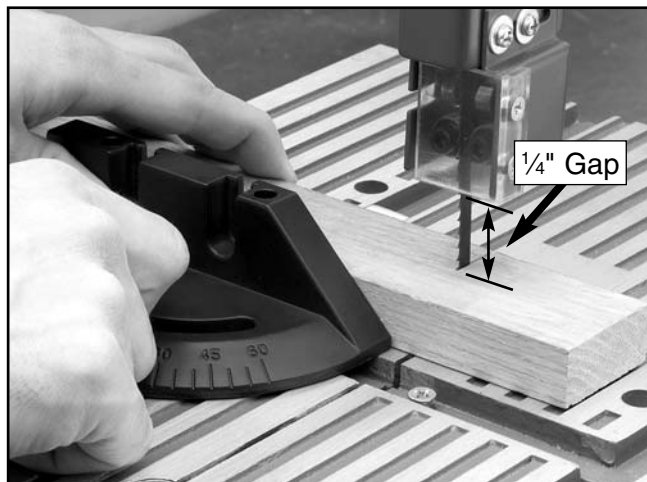

Figure 31. Crosscutting with a miter gauge.
2. Adjust the guide post/upper blade guide assembly to approximately 1/4" (**Figure 31**) above the top surface of the workpiece, or to where the miter body can move unimpeded.
4. While holding the workpiece against the miter gauge, feed the workpiece through the saw blade as shown in **Figure 31**.